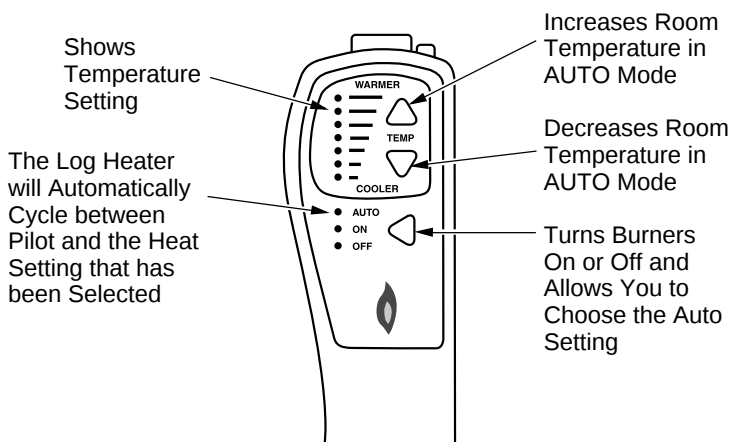

Figure 33 - Thermostat Hand-Held Remote Control Unit Selections (GHRCTA Only)
- 2b. Press the AUTO/ON/OFF button on the hand-held remote control (see Figure 33). The lights to the left of the button will show AUTO, ON, or OFF.